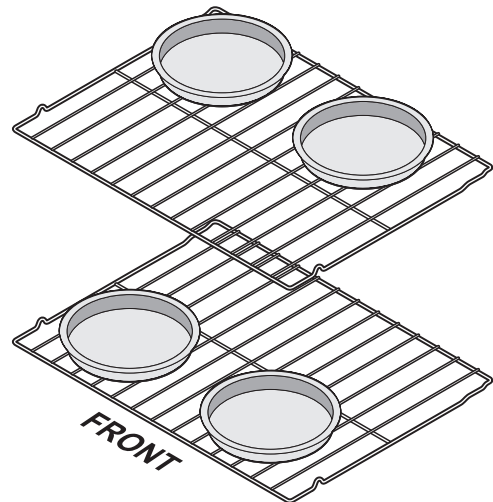

Fig. 2
- When baking using 2 oven racks, position cookware as shown in Figure 2. Allow at least 2 inches (5 cm) of space between cookware for proper air circulation.
4. If the range is equipped with a broiler pan and insert, place the insert on the broil pan then place the food on the insert (Fig. 2).